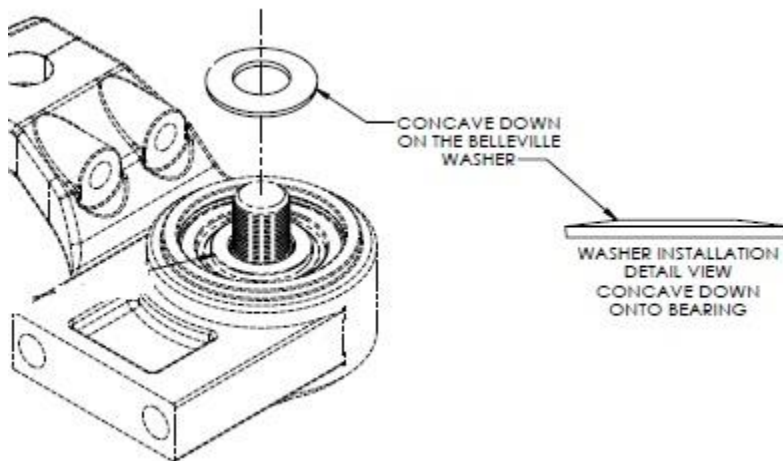

Figure 2
The Belleville washer must be installed with the Concave part of the washer facing the bearing (see figure 2)
On Model Year 2018 and older only one O-ring is used. This O-ring is item 3 in figure 2. Do not install the additional O-ring in any Model Year 2018 unless the stabilizer arm has been changed and the hole in the arm is 1 3/16".